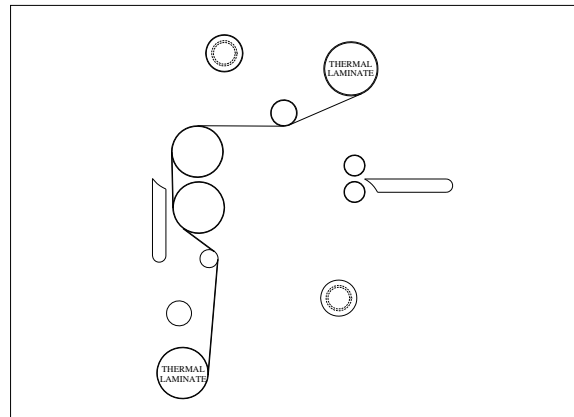

FIGURE 22
5. Pull the lower film behind the lower idler bar, Lower the table Pull Film up towards the film draped over the top heat roller and adhere the Lower Film to the upper Film (Fig. 22).